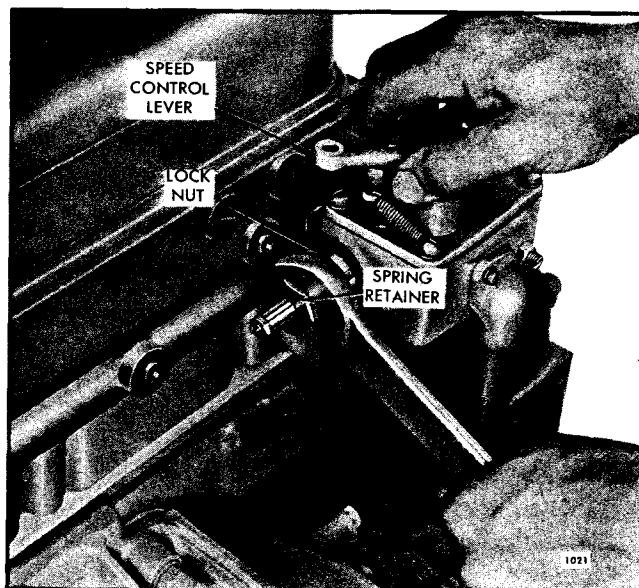

Fig. 7 - Adjusting Maximum No-Load Speed
- Loosen the lock nut (Fig. 7) and back off the high-speed spring retainer approximately five turns.